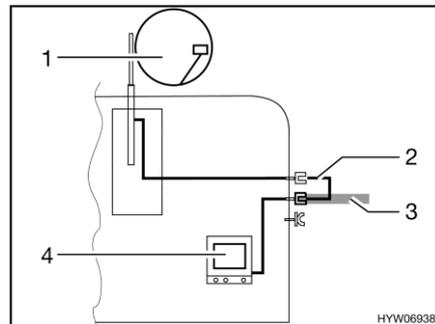

Fig. 202 TV inside the vehicle
- TV inside the vehicle (Fig. 202,4): Connection to roof antenna (Fig. 202,1) with connection cable (Fig. 202,2)
- TV inside the vehicle (Fig. 202,4): Connection to external antenna (Fig. 202,3)